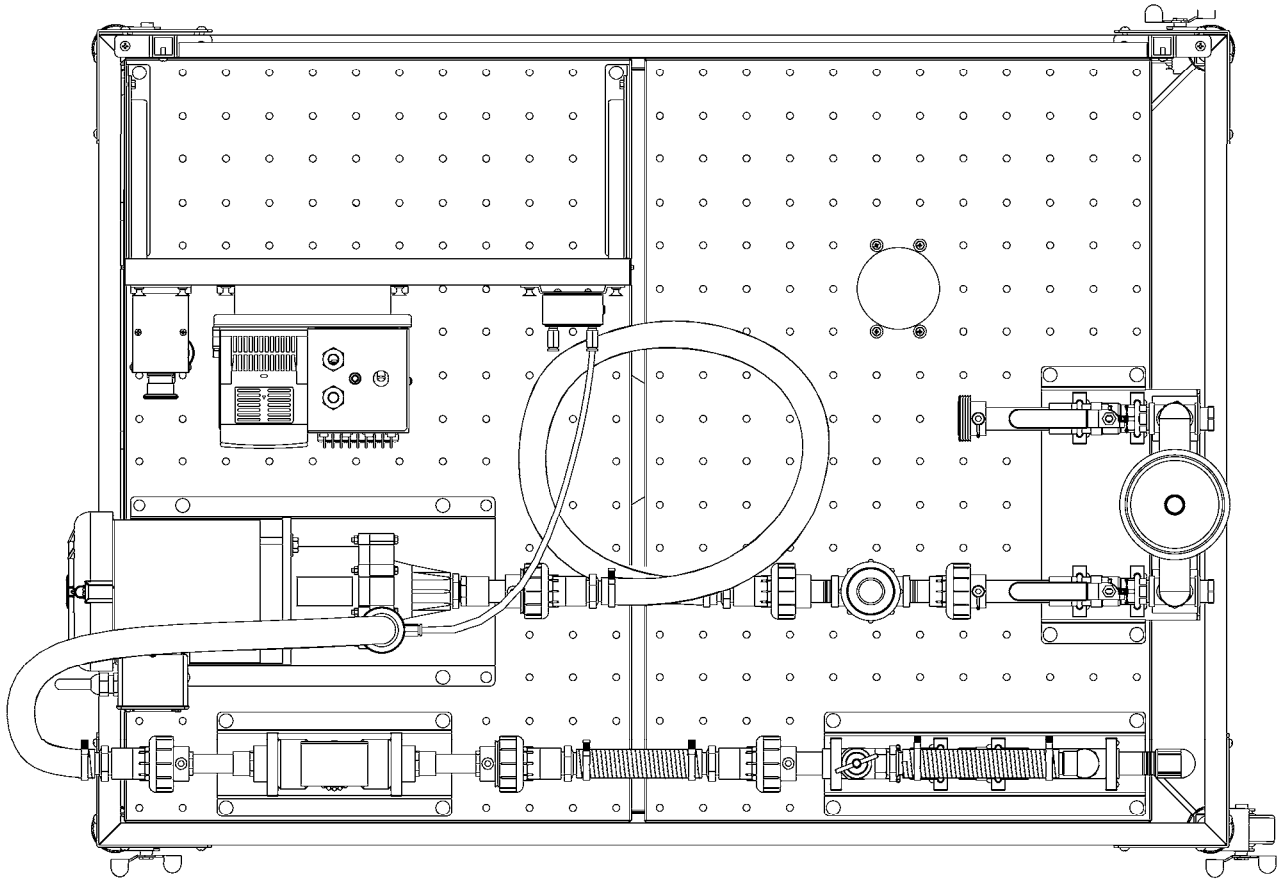

Figure 1-5. Pumping circuit using the Magnetic-Drive Centrifugal Pump.
- 9. Set up the pumping circuit shown in Figure 1-5.